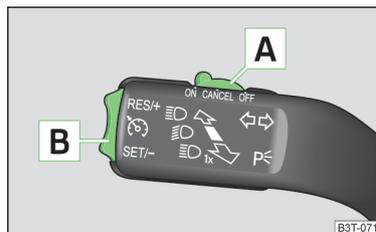

Fig. 151
➤ Move switch  » Fig. 151 into the **ON** position.
➤ Move switch  » Fig. 151 into the **OFF** position.
- Push the rocker button  into the **SET/-** » Fig. 151 on page 161 position.
- Push the rocker button  into the **RES/+** » Fig. 151 on page 161 position.
The stored speed can be **reduced** by pushing the rocker switch  into the **SET/-** » Fig. 151 on page 161 position.
The cruise control system can be **temporarily deactivated** by pushing the switch  » Fig. 151 on page 161 into the spring-mounted **CANCEL** position or by depressing the brake or clutch pedal.